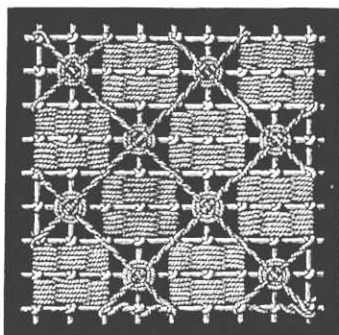

Fig. 54. Ground of squares in darning stitch with big wheels.
**Ground with squares of darning stitch and big wheels (fig. 54).** — In figure 54 the darning stitches and the wheels cover four squares of the net.